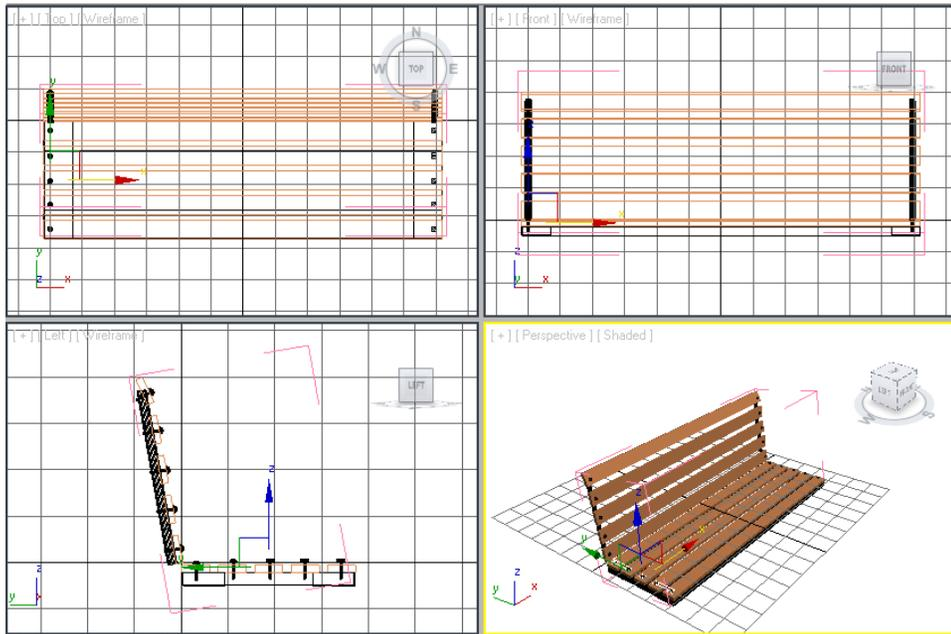

Figure 2-86 Alignment of left side seat rivets in viewports
15. Align *left side seat rivets* using the **Select and Move** tool in viewports, as shown in Figure 2-86.